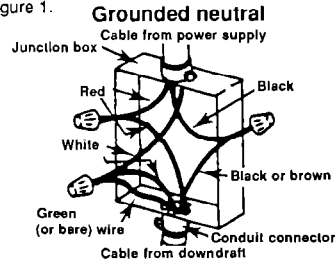

Figure 1
3. Connect the two red wires together and the two black wires together with wire connectors. See Figure 1.